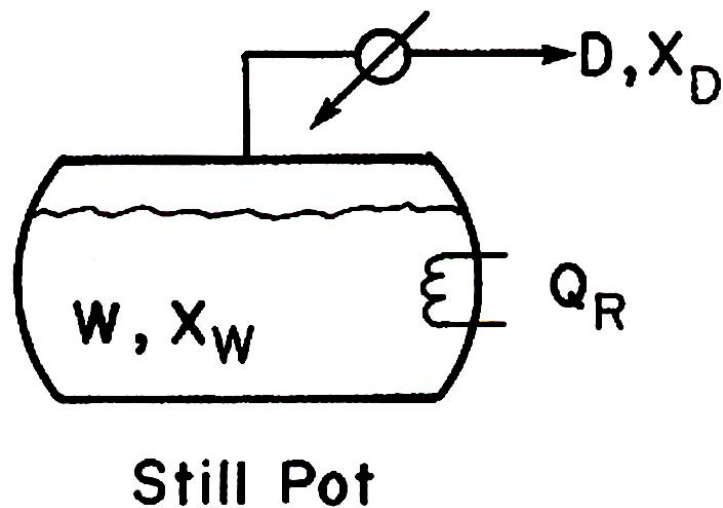

Figure 7.1: A simple batch distillation
In a *simple* batch distillation (Figure 7.1), *vapour* (*i.e.* the *product*) is *withdrawn* from the *top* of the re-boiler (which is also called the “**still pot**”) *continuously*, and by doing so, the *liquid level* in the still pot is *decreasing continuously*
Note that the *distillation system* shown in **Figure 7.1** is *similar* to the *flash distillation*
However, there are a number of *differences* between the *batch* distillation (*e.g.*, Figure 7.1) and the *flash* distillation: *i.e.*
Another configuration of batch distillation is a ***constant-level batch distillation***, which is similar to the simple batch distillation, as illustrated in Figure 7.1; however, in this configuration, the **liquid** (*i.e.* the feed) is ***continuously fed*** into the still pot (or the re-boiler) to **keep** the ***liquid level*** in the pot ***constant***
To derive this equation, Lord Rayleigh (1902) employed the facts that (see Figure 7.1), at any instant of time,
For a simple batch distillation shown in Figure 7.1, it is reasonable to assume that the *vapour* that comes out of the top of the still pot (or the re-boiler) [note that the amount of the vapour is equal to that of the distillate] is *in equilibrium* with the *liquid* (W) in the re-boiler